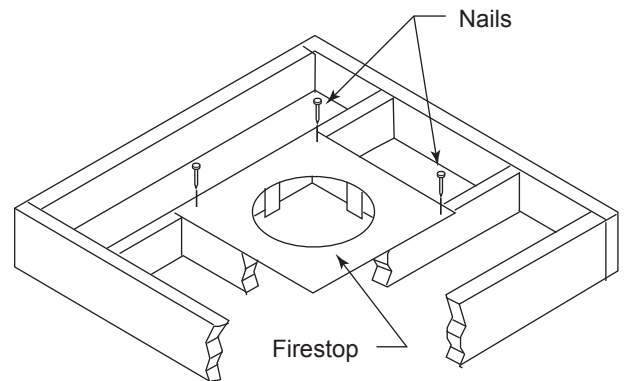
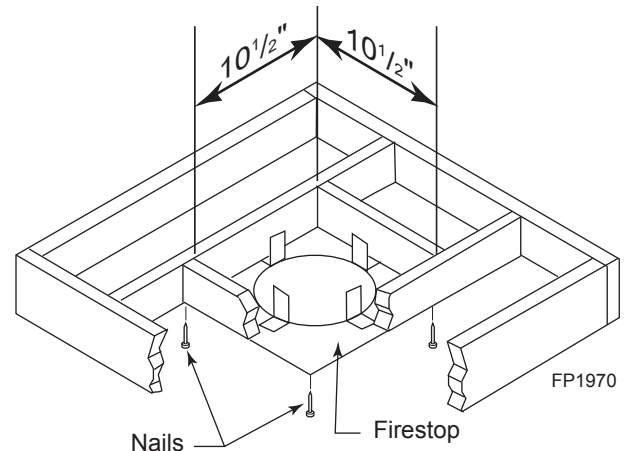

Figure 21 - If Area Above is a Room, Install Firestop above Framed Hole as Shown
Figure 22 - If Area Above is Not a Room, Install Firestop below Framed Hole as Shown
1. Cut a 10½" (241 mm) square hole in the ceiling using the locating hole as a center point. The opening should be framed to 10½" x 10½" (241 x 241 mm) inside dimensions as shown in Figure 22 using framing lumber the same size as the ceiling joist. If the area above the ceiling is an insulated ceiling or a room, nail firestop from the top side. This prevents loose insulation from falling into the required clearance space. Figure 21. Otherwise, install firestop below the framed hole. Figure 22